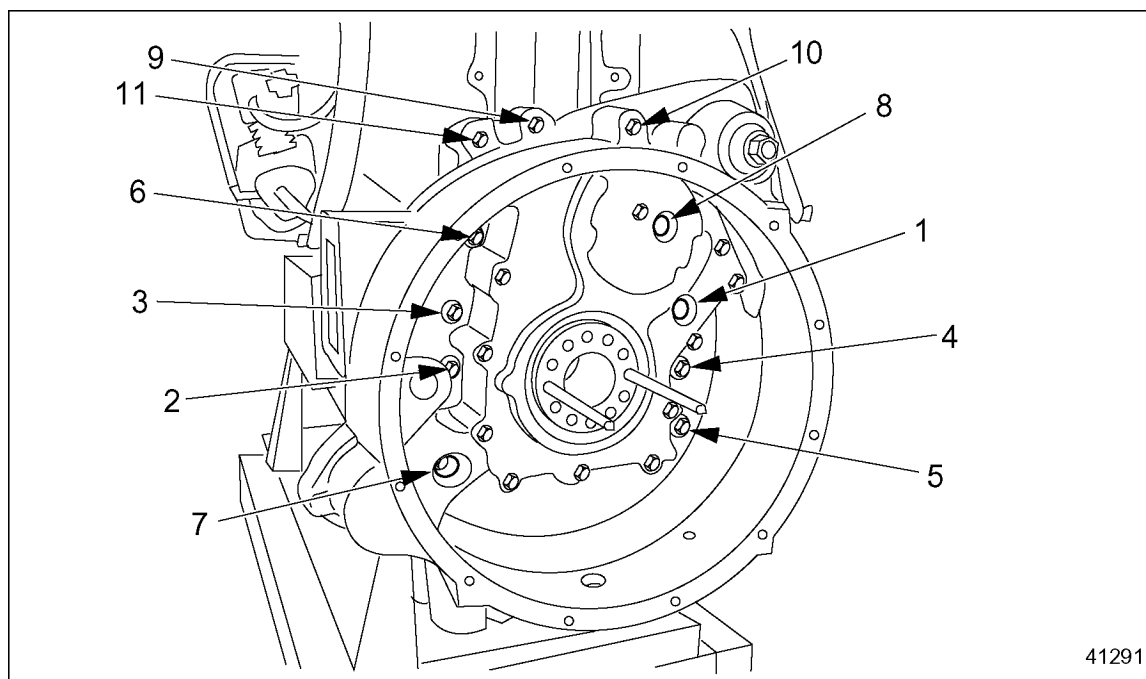

Figure 9-14 Flywheel Housing Bolt Location and Torque Sequence
7. Using a magnetic socket, install and torque all eleven flywheel housing mounting bolts in sequence to 112–126 N·m (83–93 lb·ft.) for 12 mm bolts or 160–200 N·m (118–148 lb·ft.) for 14 mm bolts. See Figure 9-14.